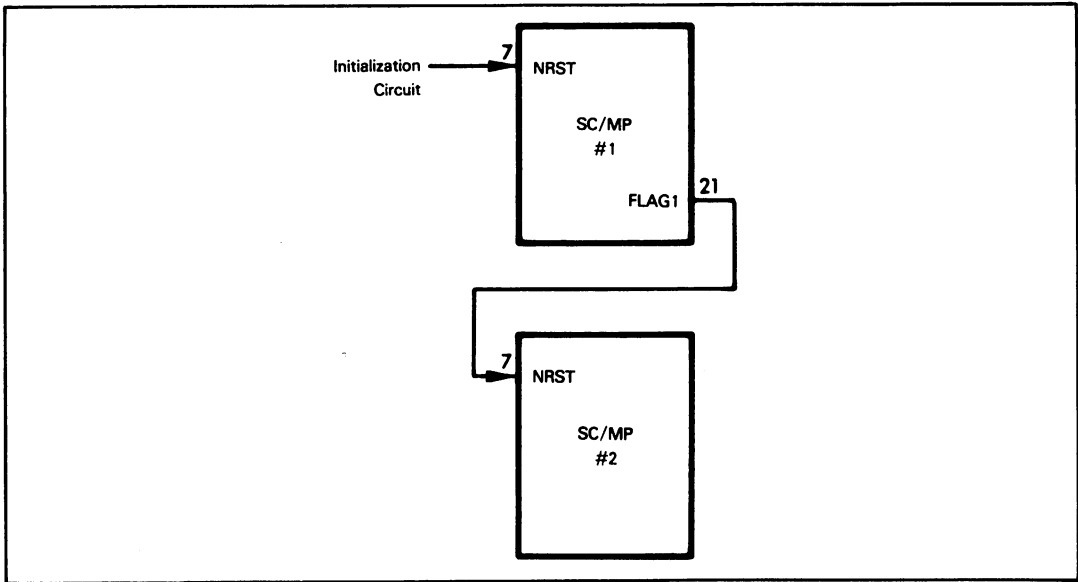

Figure 3-11. One Method of Initializing an SC/MP Multiprocessor System
**Figure 3-11 illustrates an easy method of establishing system control upon initialization.** The system reset signal (NRST), which is generated at power-up, is applied to SC/MP #1. The FLAG1 output from SC/MP #1 is then applied to the NRST input of SC/MP #2. Since the FLAG1 line is connected to a bit in the CPU's Status register which is set to zero on power-up, SC/MP #2 will be held in a reset condition until SC/MP #1 executes an instruction which sets that bit (and thus, the FLAG1 output line) high.